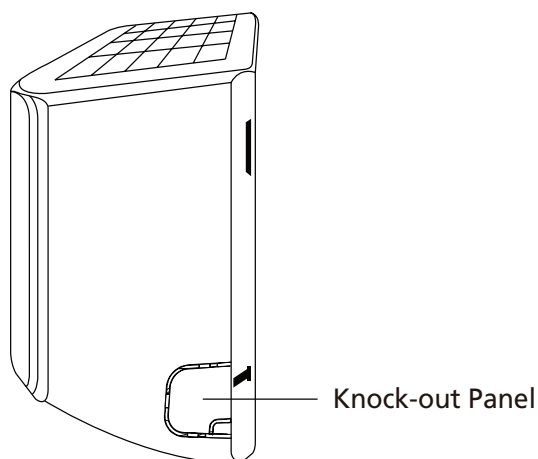

Fig. 3.3
2. If the wall hole is behind the unit, keep the knock-out panel in place. If the wall hole is to the side of the indoor unit, remove the plastic knock-out panel from that side of the unit. (See **Fig. 3.3** ). This will create a slot through which your piping can exit the unit. Use needle nose pliers if the plastic panel is too difficult to remove by hand.